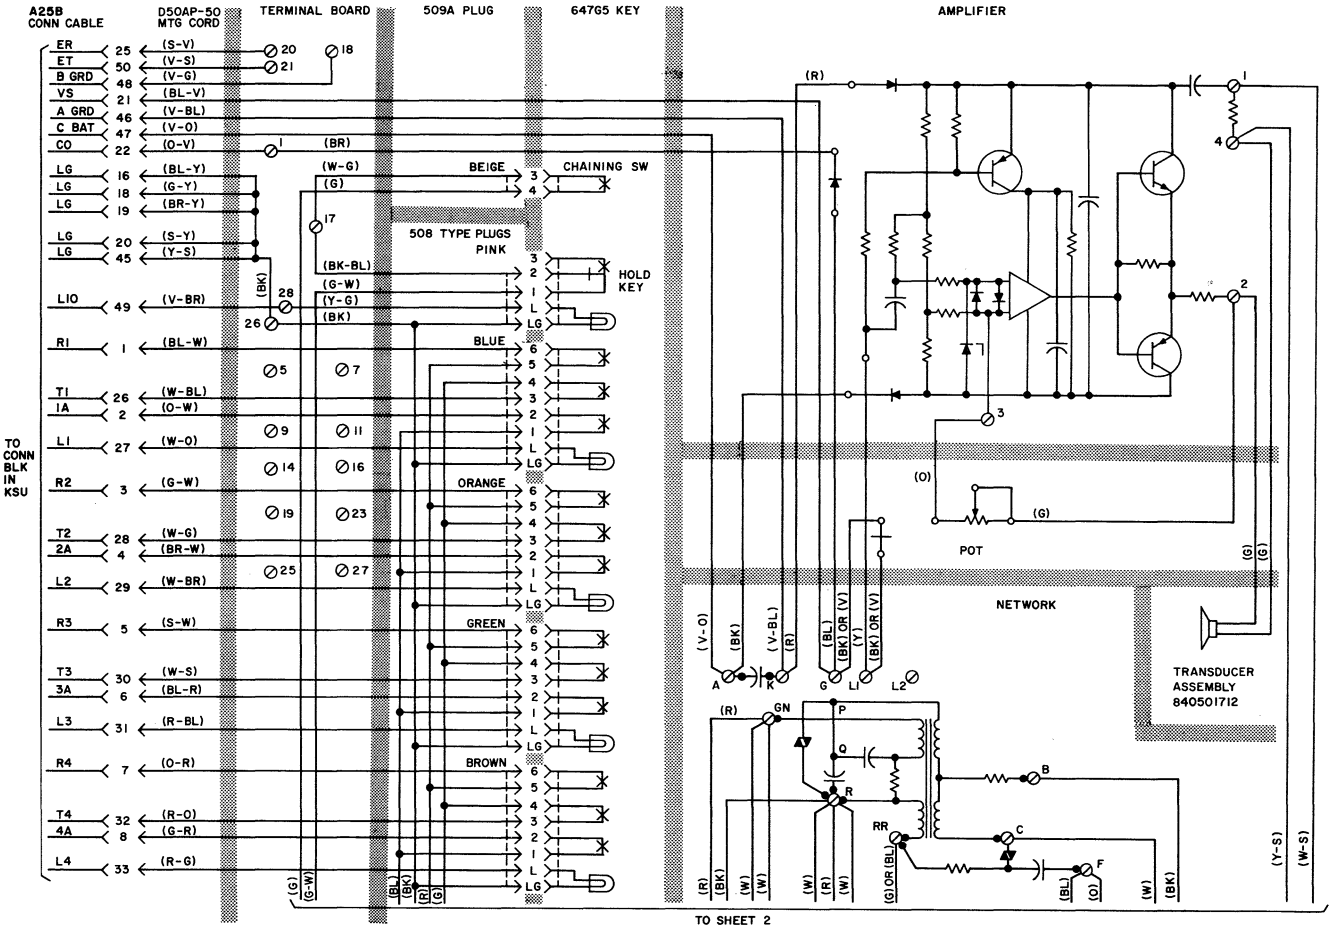

Fig. 6—832A (MD) Telephone Set, Connections (Sheet 1 of 2)
**3.01** Install telephone sets at desired locations, making sure that any options are installed before telephone set is connected. See Fig. 6 through 15 for schematics of 832A, 2832A, 832B, BM, DM, 2832B, BM, DM, 832C, CM, EM, 2832C, CM, or EM telephone sets, respectively.
**3.10** Refer to Fig. 6 through 15 for telephone set schematics.